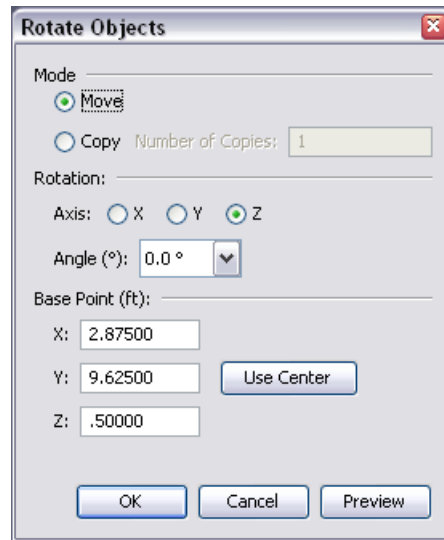

Figure 111. The rotate dialog being used to rotate an object
3. This will show the Rotate dialog as in Figure 111.